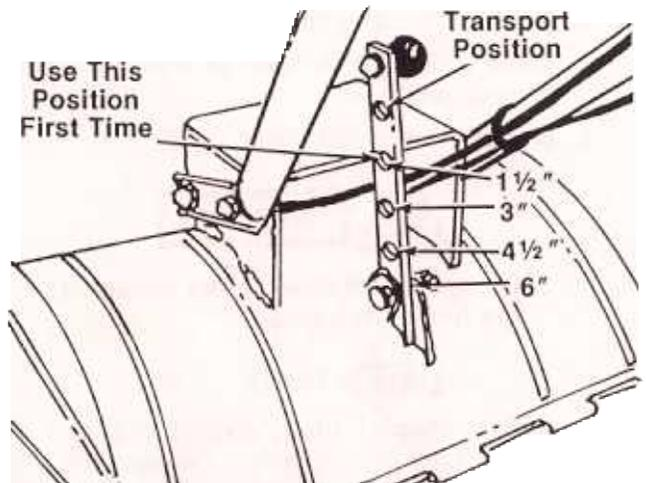
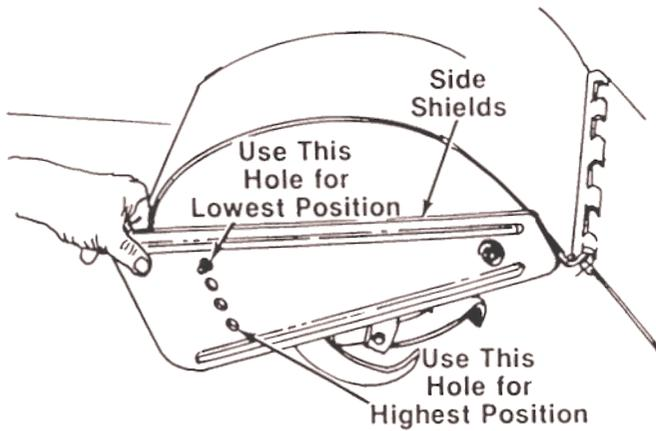

FIGURE 16.
FIGURE 17.
When operating the tiller for the first time, use the depth bar setting that gives 1 1/2 inches of tilling depth (second hole from the top). Refer to figure 16. Use slow speed only.
Tilling depth is controlled by the depth bar which can be adjusted to five different settings. See figure 16. Adjust the side shields as shown in figure 17, as you adjust the depth bar. Be certain spark plug wire is disconnected and grounded against the engine.
1. When using the tiller for the first time, use the second adjustment hole from the top (1 1/2" of tilling depth). See figure 16.
To adjust the depth bar, remove the clevis pin and hairpin cotter. See figure 16. Move the depth bar to the desired setting.
To adjust the side shields, remove the hex nut and belleville washer from the front and loosen the rear nut. See figure 17. Pivot the side shield to the desired position. Replace hex nut and belleville washer. Tighten securely.